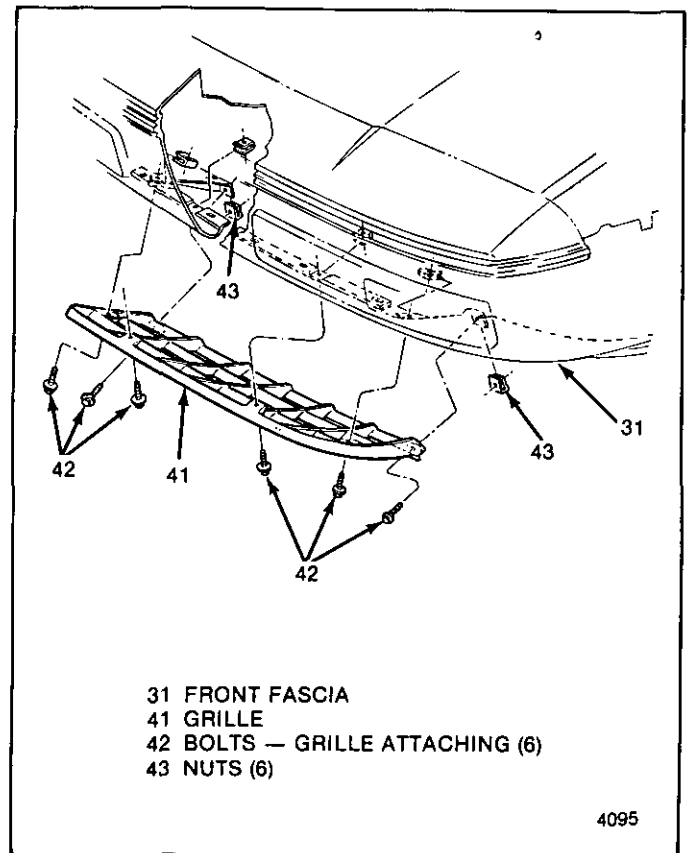

Fig. 9-Grille Assembly
**↔** Remove or Disconnect (Figure 9)
1. Bolts (42)
2. Grille (41)
**↔** Install or Connect (Figure 9)
1. Grille (41)
2. Bolts (42)